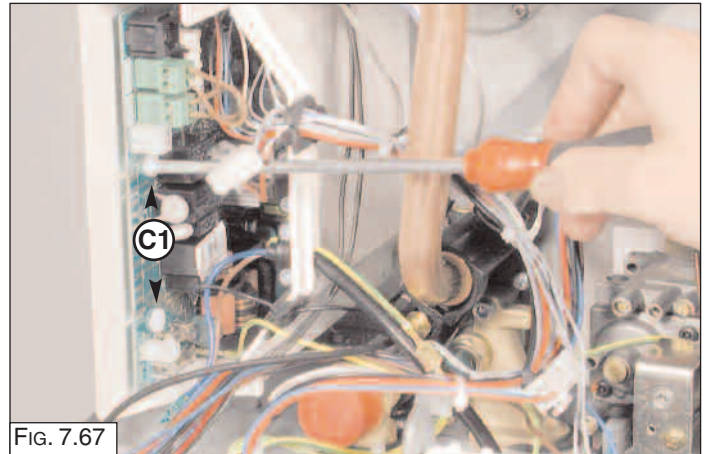

FIG. 7.67
2. Unplug all the electrical connections (FIG. 7.67);
3. Unscrew the screws "C1" (FIG. 7.67);